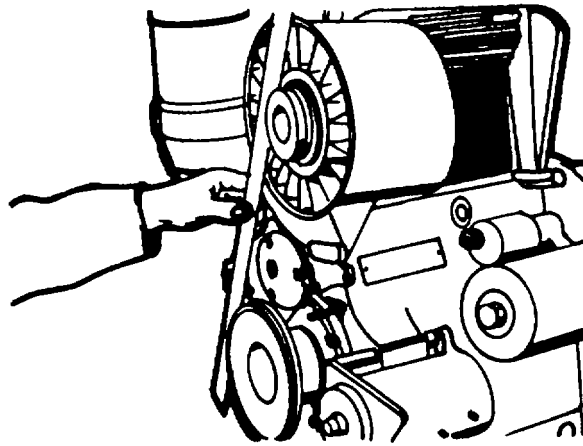

Figure 4-57. Checking V-Belt Pulley Alignment
- a. Mount the cooling air blower and check whether its belt pulley is in alignment with the crankshaft belt pulley (figure 4-57).